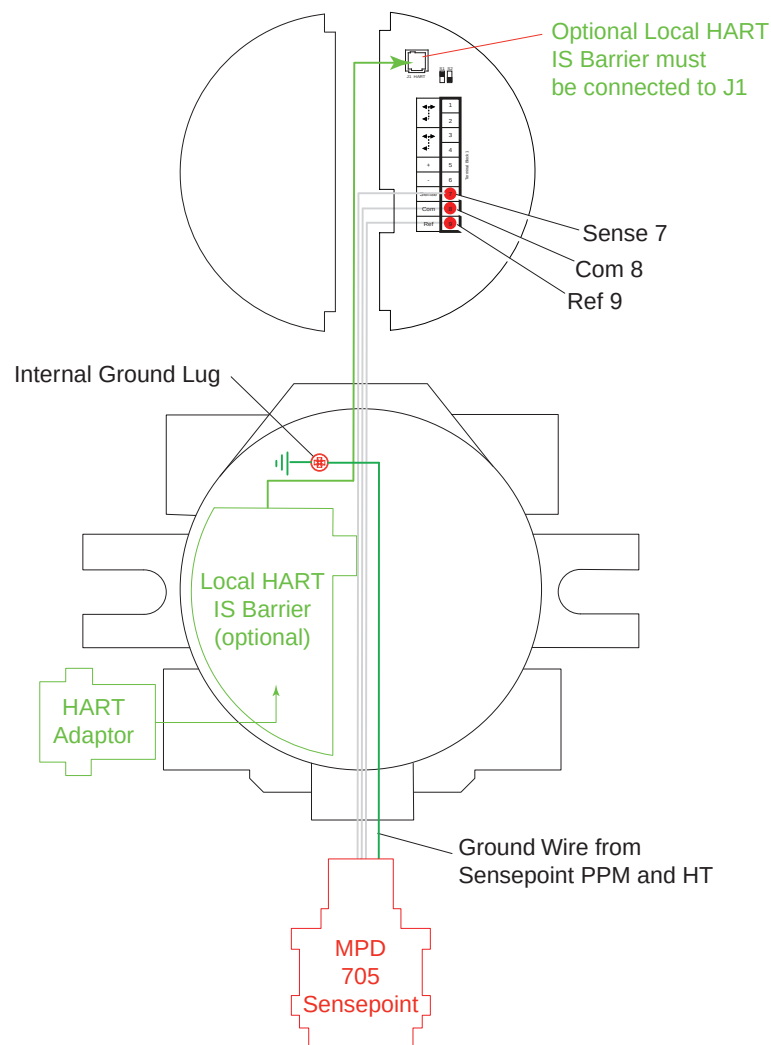
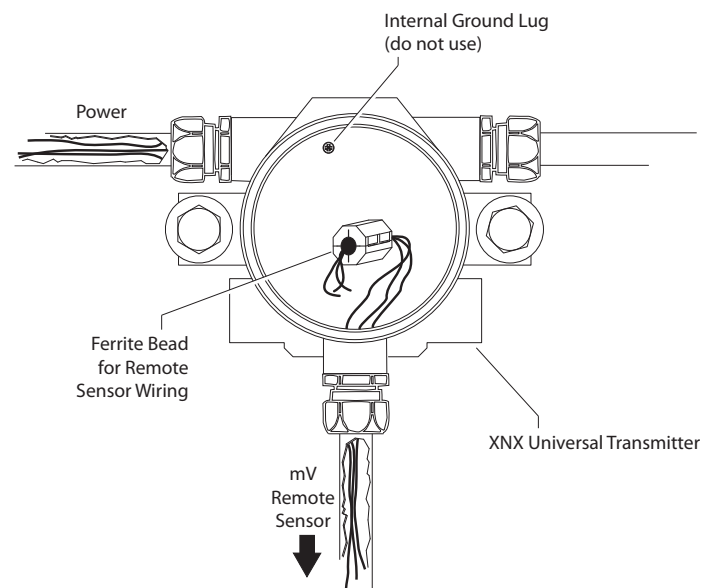

Figure 44. mV personality wiring
Figure 46. Ferrite bead wiring
- Wire the pluggable terminal block as shown in the **mV personality board** illustration then plug the connector into the back of the mV personality board. In remote mount MPD configurations, the 3 wires connecting the pluggable terminal block and the remote MPD must be routed through the supplied ferrite bead (Honeywell Analytics part no. 0060-1051, supplied in the accessory kit) as shown in **Figure 46**.
12. At the transmitter, pass the wires through the ferrite bead as shown in Figure 46 and terminate the wiring at the pluggable terminal block as shown in Figure 44.